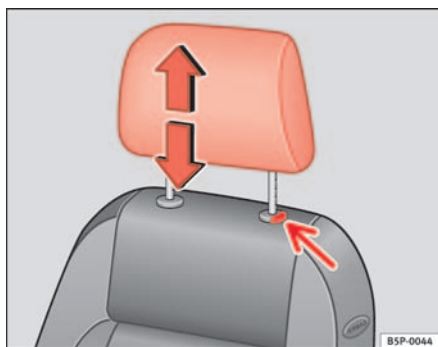

Fig. 70 Adjusting and removing the head restraints
- Press the button ⇒ fig. 70 (arrow).